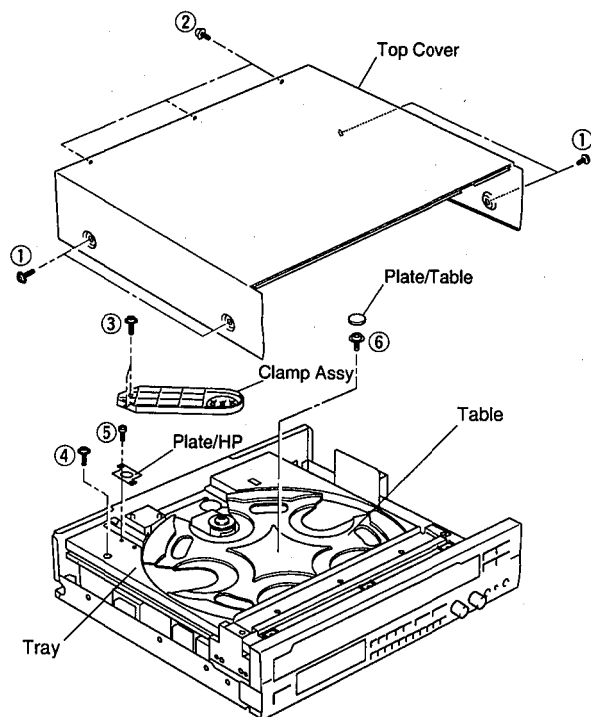

Fig. 1
- a. Remove 4 screws ( ① ) and also 3 screws ( ② ) as shown in Fig. 1.
- a. Remove 2 screws ( ③ ) as shown in Fig. 1.
- a. Remove 1 screw ( ④ ) as shown in Fig. 1.
- a. Remove 1 screw ( ⑤ ) and then remove the Plate/HP as shown in Fig. 1.
b. Remove the Plate/Table as shown in Fig. 1.
c. Remove 1 screw ( ⑥ ) and then take off the Table as shown in Fig. 1.